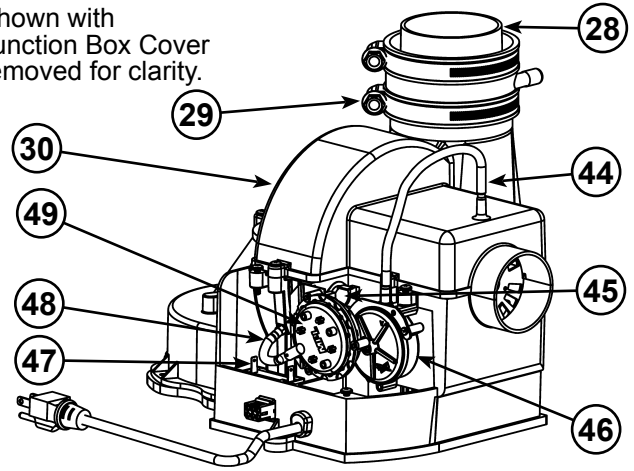

Figure 50
- 28 \*\*\*\*Rubber Coupling (see Figure 5) (see also **Figure 50**)
- 29 Gear Clamp (see Figure 5) (see also **Figure 50**)
- 30 \*\*\*Blower with Power Cord (see Figure 5) (see also **Figure 50**)
- 44 Air Tubing (Intake) (see Figure 5) (see also **Figure 50**)
- 45 Blower High Limit Switch (see Figure 5) (see Figure 50)
- 46 Intake Air Pressure Switch (NC) (inside box) (see Figure 5) (see also **Figure 50**)
- 47 Capacitor (see Figure 5) (see also **Figure 50**)
- 48 Air Tubing (Exhaust) (see Figure 5) (see also **Figure 50**)
- 49 Exhaust Air Pressure Switch (NO) (inside box) (see Figure 5) (see also **Figure 50**)